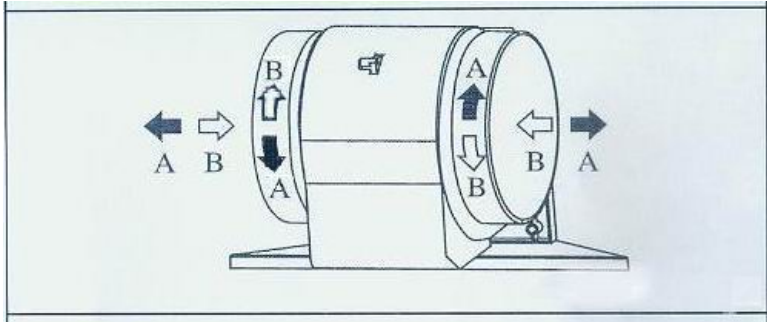

Fig. 6
- The active carbon filters purify the air that is replaced in the environment. The filters are neither washable nor reuseable and must be replaced at maximum every four months. The saturation of the active carbon filter depends on the frequency of use of the appliance, by the type of cooking and the regularity of cleaning the anti-grease filters. (Fig 6) To remove the charcoal filters place on hand on one filter at a time and turn it toward the front part. The charcoal filter can now be removed. Always ensure to replace both filters at the same time.